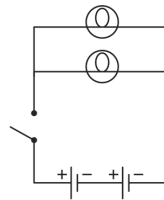

Figure 6.8: Circuit diagram with two lamps in parallel.
1. Create a circuit with lamps bulbs *in parallel*, as shown in Fig. 6.8.